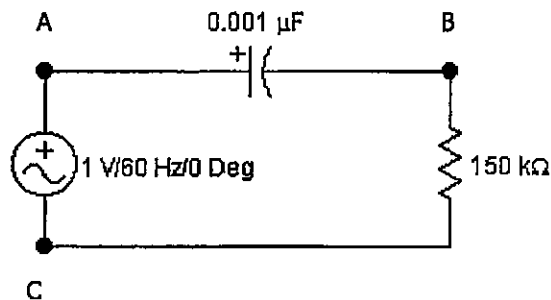

Fig 3.3
- 16- Set up the circuit of Figure 3.3.